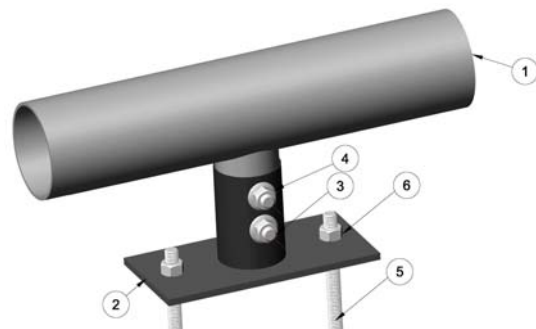

Figure 2. Carrier mount installation.
3. As shown in figure 2, slip the $\frac{1}{2}$ "-13 threaded rod (item 5) through the predrilled holes and temporarily secure with a $\frac{1}{2}$ "-13 top lock nut (item 6).